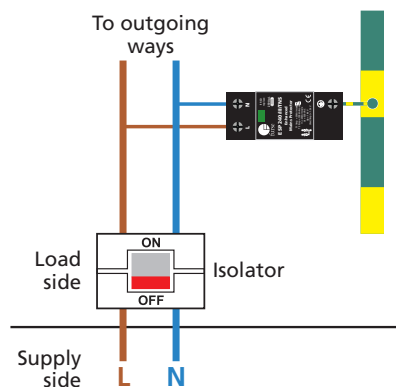

Figure 1: ESP 240/XXX mounted within a distribution board connected to the incoming supply on the load side (ie downstream) of the isolator.
ESP 240/XXX Protectors need to be installed very close to the power supply to be protected. The ESP 240/XXX Protector will be installed at a main power distribution board, either inside it (Figure 1) or right next to it in an enclosure (Figure 2).
- on the load side of the incoming isolator (Figure 1).